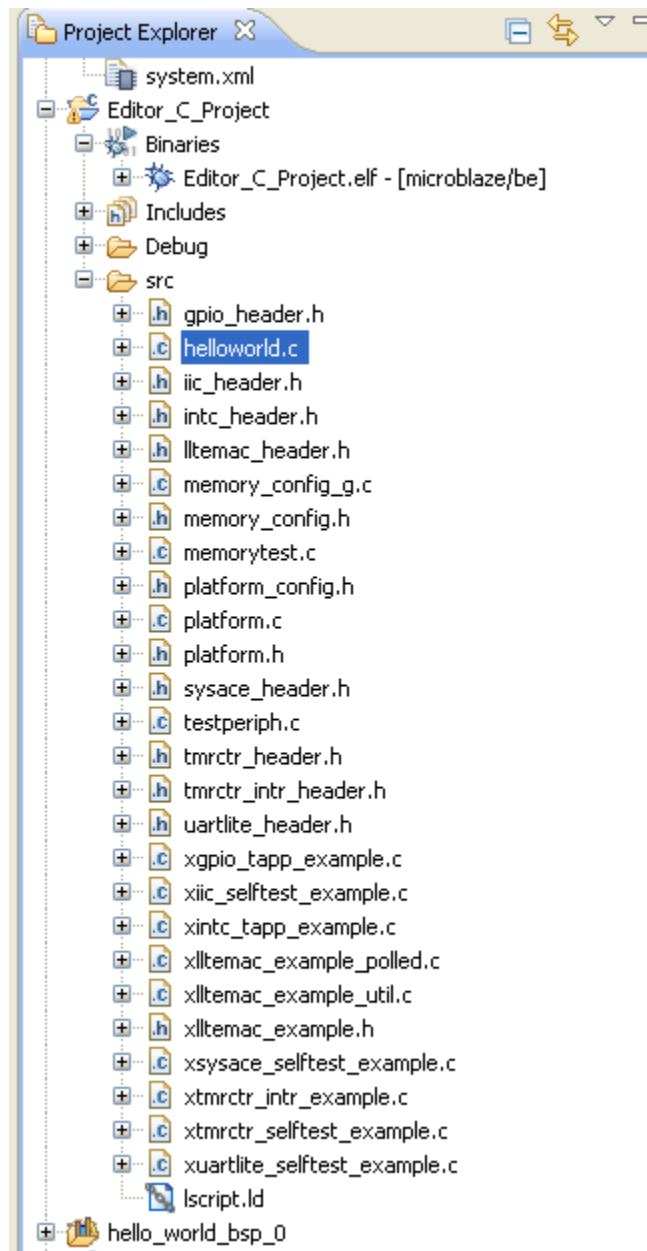

Figure 6-2: Source Files in Editor_C_Project
7. Drag and drop source files from memory_tests_0 and peripheral_tests_0 into the src subfolder of the Editor_C_Project folder. Figure 6-2 shows the source files that the directory should contain.